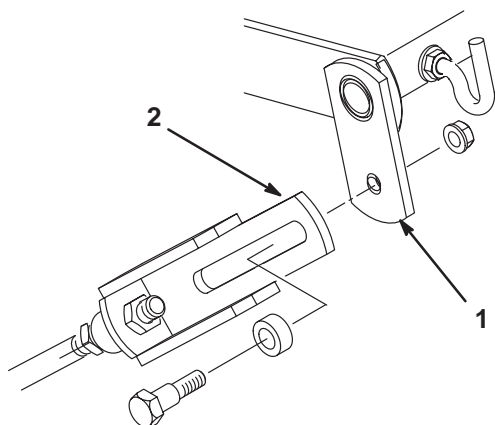

Figure 5
4. Mount the opposite ends of the lift arm adjuster assemblies to the lift arms with 2 shoulder bolts, spacers, and locknuts (Fig. 5).